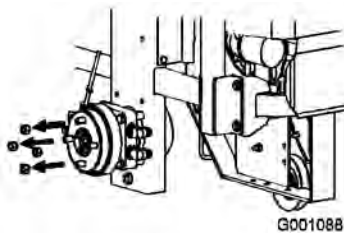

Figure 4
3. Remove the wheel nuts from both sides of the vehicle and remove the right angle retaining plate (Figure 4). Discard the screws and retaining plate.